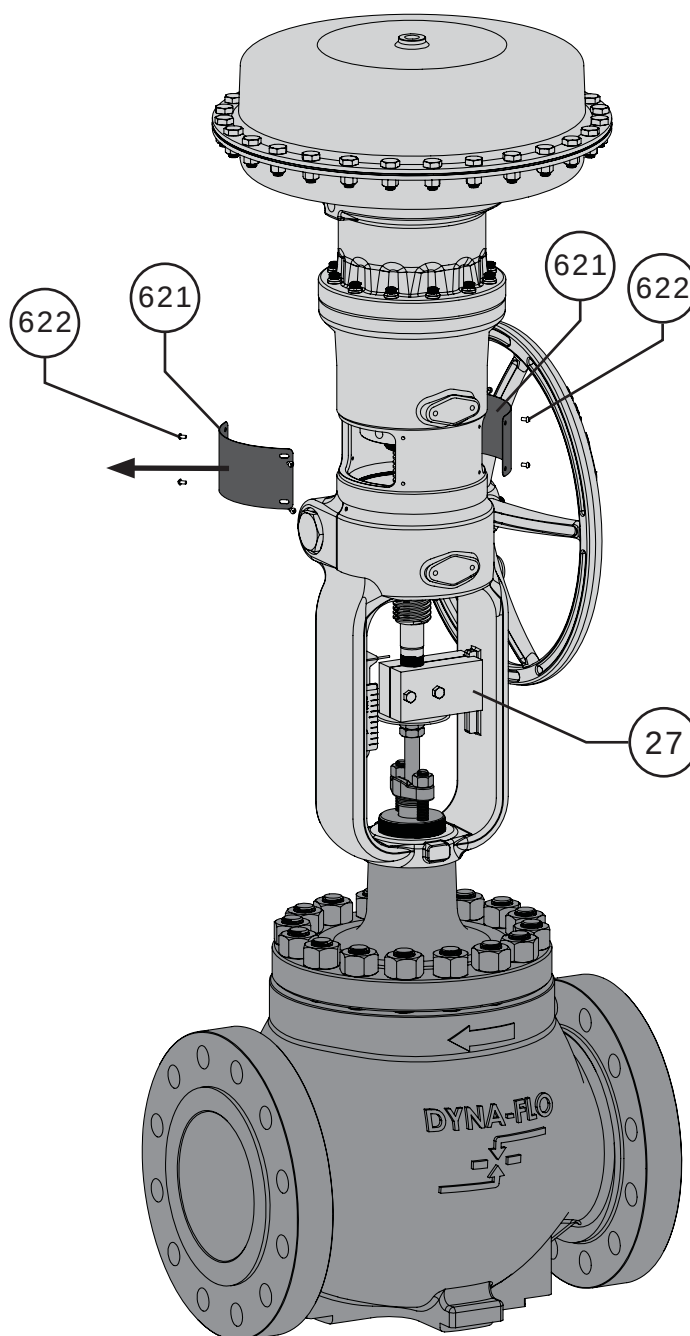

Figure 71 Cover Band Removal
- 2 Remove the cover band screws (Key 622) and cover bands (Key 621). Refer to Figure 71.